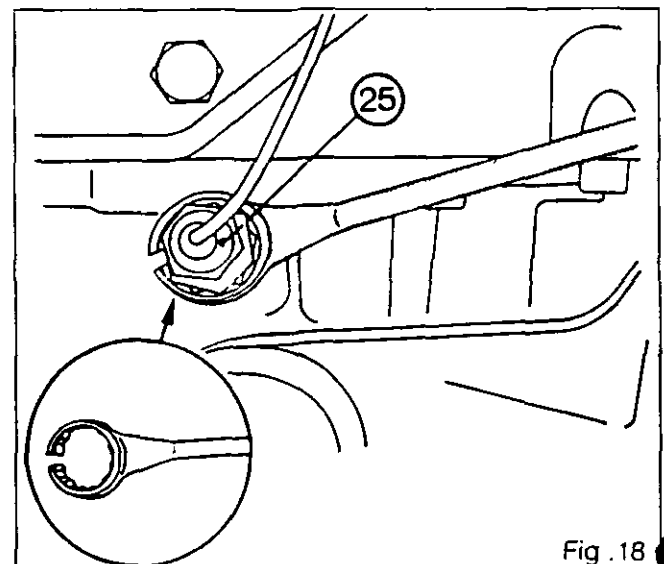

Fig. 18
77. Stop the engine, then make a mark on the cover and on one arm. Screw in the sensor (without forcing it) until it meets the cam (9) and unscrew by approximately one turn (ie. 1.5 mm).
82. Tighten the nut (25) to a torque of 25 Nm using a suitable spanner (Fig. 18).